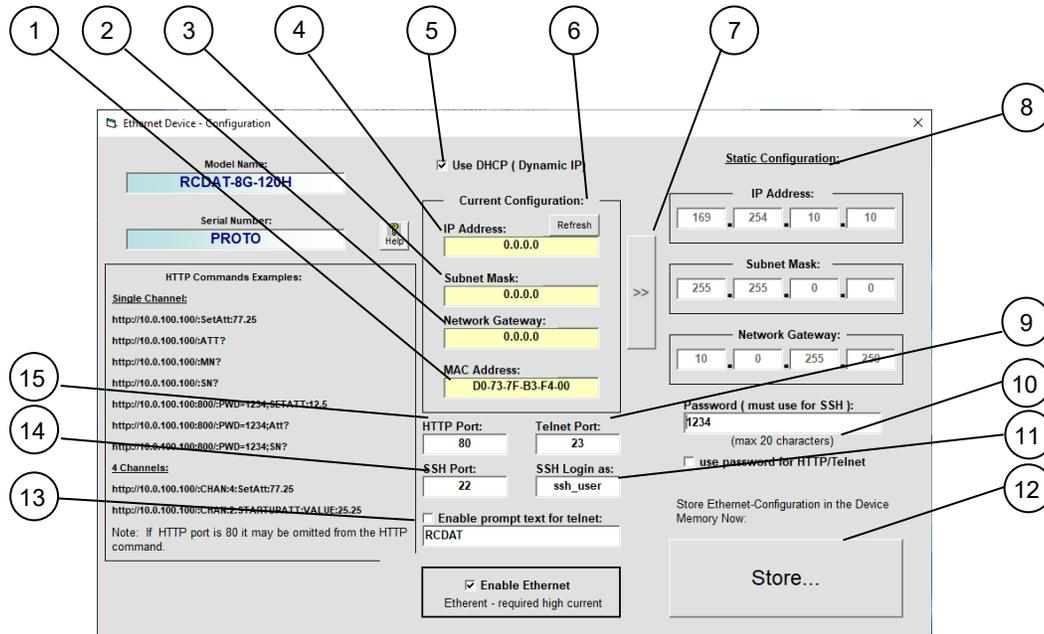

Figure 3.3.6: Ethernet Settings screen (showing factory default state)
3.3.4 **Default factory settings** for RCDAT models are Dynamic IP (DHCP) using port 80 for HTTP or port 23 for Telnet (see **Figure 3.3.6**). To change these settings, click on the Ethernet Settings button in the GUI (see **section 3.3.4**), or use Mini-Circuits Ethernet configuration tool (see **section 3.3.7**).
3.3.5 **The Ethernet Settings screen** will open showing the current configuration. **Figure 3.3.6** shows the factory default of the programmable attenuators.